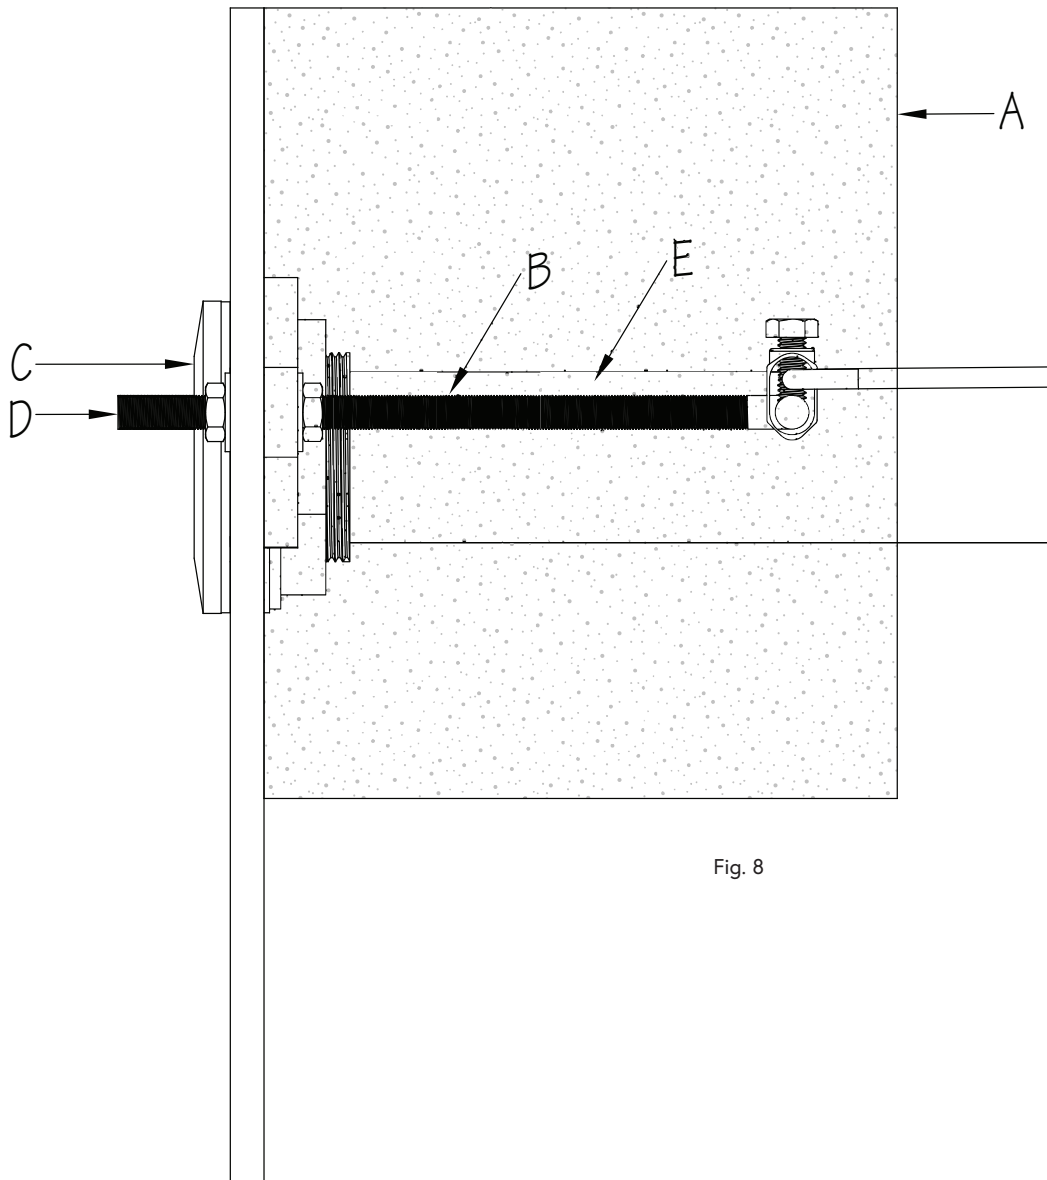

Fig. 8
7. A Concrete Collar (A) is required to support the Current Unit. If using rebar in the pool's collar, tie the Threaded Rods (B) to the rebar grid using rebar ties. Prior to pouring the concrete, be sure that the openings of the Thru-Wall Fittings (C) and Threaded Rods (D) are covered. Concrete cannot be embedded in these areas.
Pour the collar around the top flange of the pool, encasing the Threaded Rods (B) and PVC Pipe (E) in place (Fig. 8).